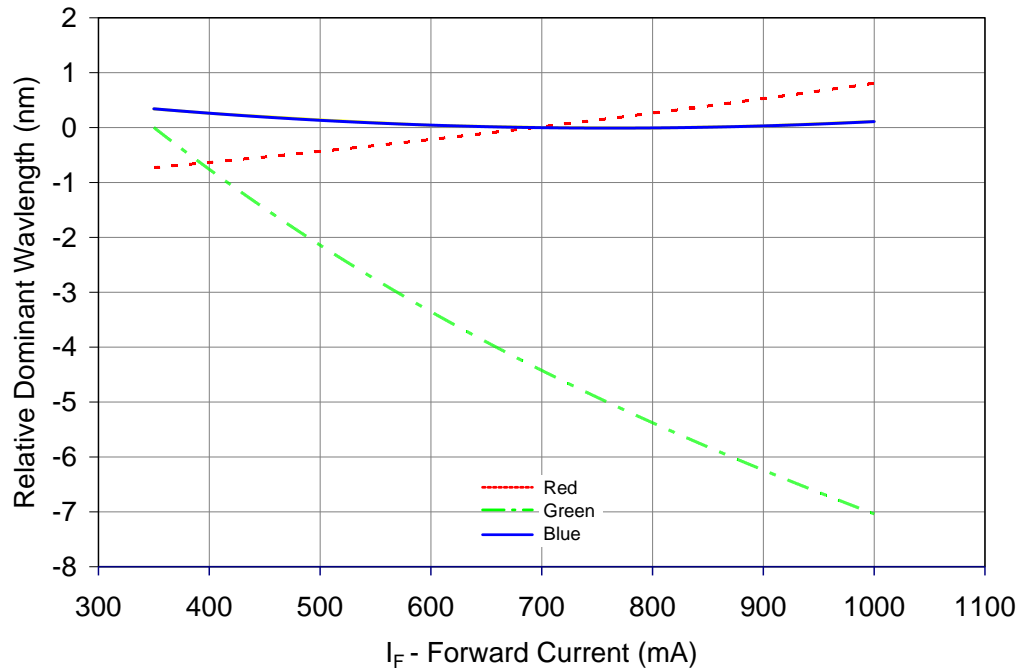

Figure 6: Typical dominant wavelength shift vs. forward current @ $T_c = 25^\circ\text{C}$.
- Refer to Figure 6 for typical dominant wavelength shift over forward current.
Notes for Figure 6: